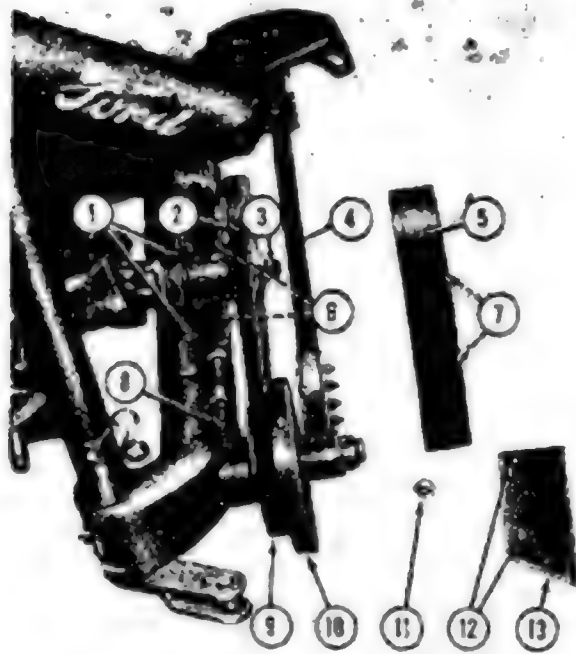
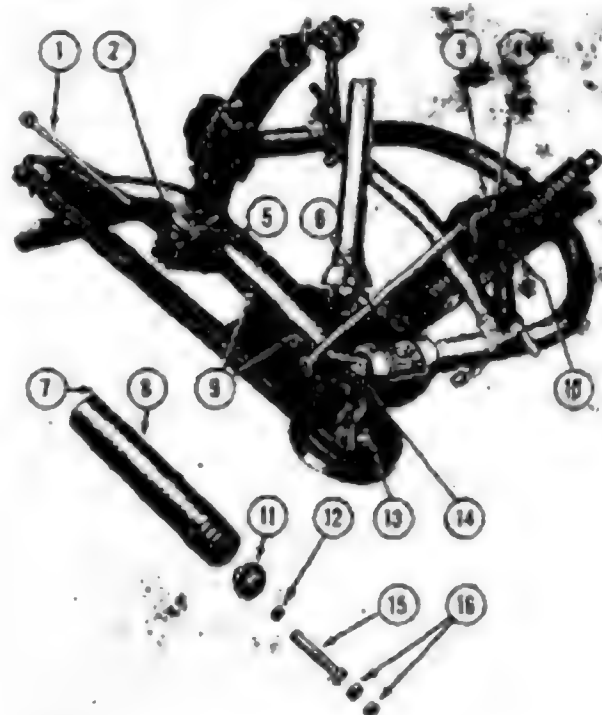

Figure 18
Figure 19
large flat washer on each of the 7/16" x 5" bolts (7) and place the bolts (1), Figure 18, through the holes on either side of the drive shaft housing and through the lower frame.
- c. Slip the V-belt (9), Figure 18, over the free end of the Pitman arm (4) and position it on the flywheel (10) as shown. Place the other end of the V-belt on the drive sheave (2) and slip the sheave on the splined drive shaft (3). Attach the flat washer and slotted nut, adjust the bearing preload as described below; then secure the slotted nut with the 1/8" x 1/4" cotter pin as shown.
NOTE: The Pitman and flywheel shaft assembly (10), Figure 18, and drive shaft assembly (3) are equipped with tapered roller bearings and should not be overtightened. Rotate the shaft while tightening the nut until a slight drag is felt. Loosen the nut until a slot in the nut aligns with the first of two holes in the shaft, but not more than 1/2 turn. Tap the shaft end to free the bearing. The end play should be - .001" to - .004" with this adjustment.
- d. Position the upper belt guard (5), Figure 18, over the drive sheave (2) so that the holes
(7) in the upper belt guard align with the holes (6) in the frame. Install two 3/8" x 1" hex head bolts, lock washers, flat washers, and nuts through the holes (7) and the holes (6) attaching the upper belt shield to the frame.
- e. Place the lower belt guard (13), Figure 18, in the position shown in Figure 19, and fasten loosely with two 7/16" nuts (9), Figure 19. These nuts also secure the drive housing to the frame.
- f. Turn the belt adjusting bolt (8), Figure 18, against the bearing housing until there is 1/4" slack in the V-belt, midway between the pulleys. Lock the adjusting bolt (8) in this position with the nut (11). Tighten the nuts (9), Figure 19, holding the lower belt guard and drive shaft housing secure.
- a. Hold the Pitman arm close to the lower frame to avoid breakage, and roll the assembly to the rear as shown in Figure 19.
b. Insert the rod (1), Figure 19, through the large holes in the lower frame roller bracket (2) and slide the balance spring (8) with cover, on the rod so the spring end (7) is locked in the hole (5).
c. Start the spring adjusting nut (11), Figure 19, and the lock nut (12) on the rod (1) sufficiently to permit the end of the rod to slip through the hole in the trunnion (13) on the bellcrank (14). Place the sleeve (15) on the end of the rod so it will protect the threads from the trunnion (13) and secure the extreme end of the rod with two lock nuts (16).
11. Position the push rod (6) as shown in Figure 19, between the bellcrank (14) and the left-hand stabilizer guide (10). Be sure the rubber seal (3) is on the bolt at each end of the rod (6) and secure each with a 1/2" slotted nut (4) and a 1/8" x 1" cotter pin as shown. Hold the Pitman arm close to the lower frame and roll the mower frame assembly in an upright position (see Figure 13) to facilitate attaching it to the tractor.